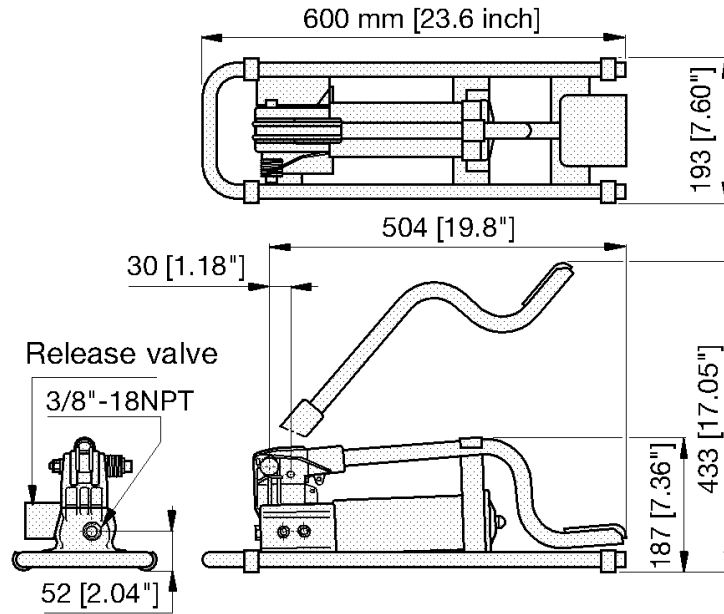

Figure 3
1. Close release valve by turning clockwise, as shown in figure 3.